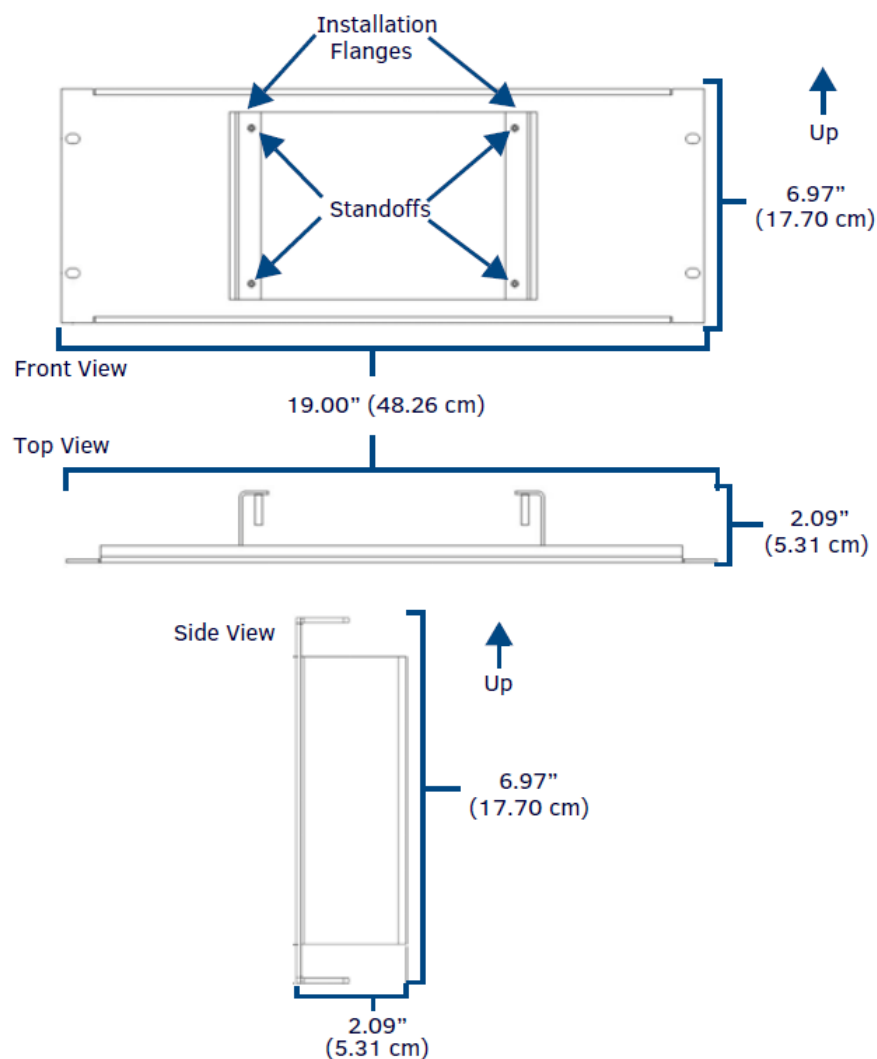

FIG. 1 MXA-RMK-10
The MXA-RMK-10 Modero X Series® Rack Mount Kit (FG5969-62) is an optional accessory for the MXD-1000 10.1" Modero X Series Wall/Flush Mount Touch Panel (FIG. 1). The kit allows the touch panel to be mounted directly on an equipment rack, and includes a rack mount frame, screws and washers.
1. Secure the Rack Mount Panel to the rack with #10 screws. Make sure that the installation flanges (FIG. 2 and FIG. 3) face away from the front of the rack (FIG. 1).